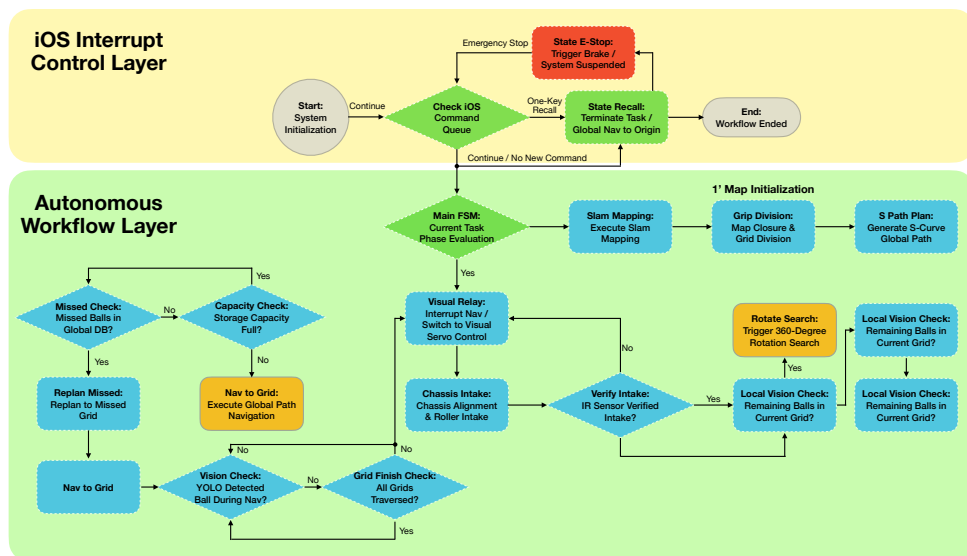

Figure 8: CourtSweeper full operational workflow: SLAM mapping → Nav2 path planning → dual-PID tracking → roller ingestion
1. The robot's high-level FSM (Figure 8) automatically transitions to the SEARCHING state and follows the Boustrophedon S-shaped coverage path across the court.